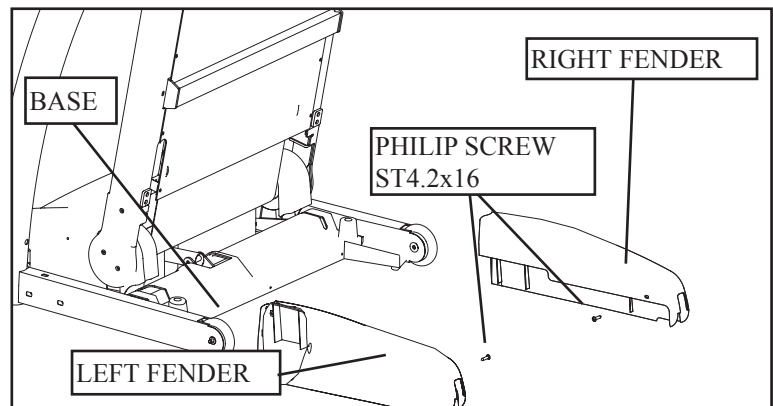

Figure 8: Left and Right Fender Installation
10. Install the Left and Right Fenders to Base using Philip Screw ST4.2X16 as shown in Figure 8.